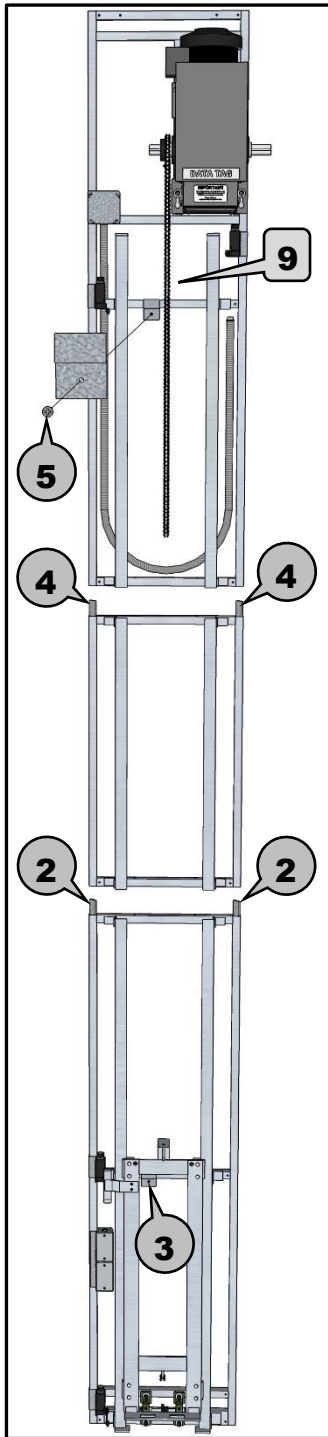

Figure 4
NOTE: For some motor on top configurations the chain is tied to the motor. When mounting a motor with chain, make sure the chain bundle is positioned down the track & rail in between track and not behind rail. (see Page 11, Figures 4 & 5, **9**)
- 2** Drop two (2) stacking pins into the top of the two outer vertical tubes of the bottom section, and position section centered against the mounting wall. (see Figure 4)
- 3** Use provided frame clip and 2" screw to temporarily hold section in place against the wall. Make sure screws go into solid wood. (see Figure 4)
- 4** Drop two (2) stacking pins into the top of the two outer vertical tubes of the next section, and position section on top of previous section using the stacking pins to guide it into place centered against the mounting wall. (see Figure 4)
- 5** Use provided frame clip and 2" screw to temporarily hold section in place against the wall. Make sure screws go into solid wood. (see Figure 4)